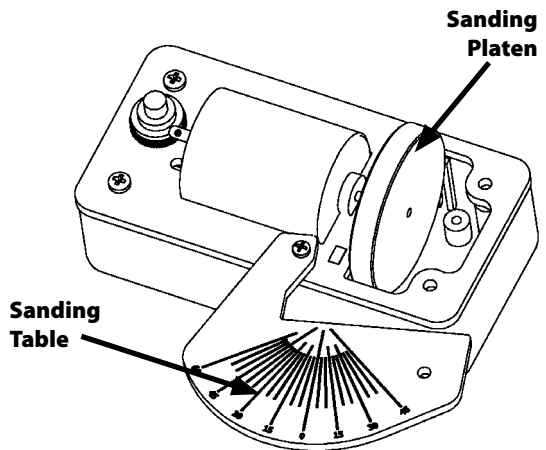

Figure 2
3. Pull the sanding table so that it rotates on the screw as shown in Figure 2.